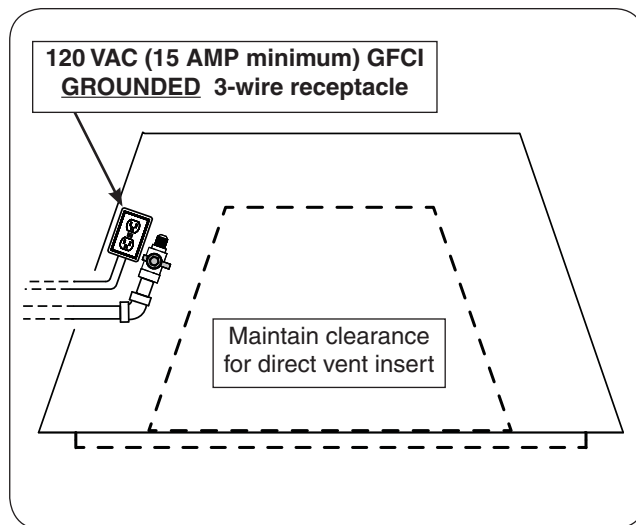

Fig. 20-2 Install electrical (receptacle)
1. Wire the receptacle as applicable into the vicinity of the fireplace (see Fig 20-2 for an example).